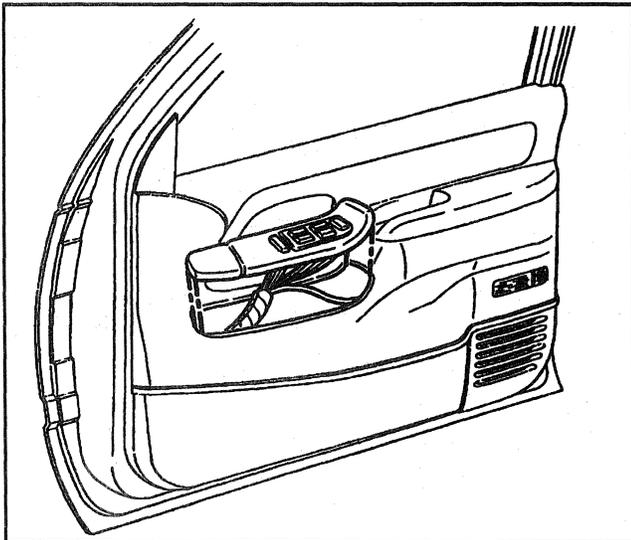

Figure 8—Accessory Switch Plate Mounting
5. Switch mounting panel (Figure 8).